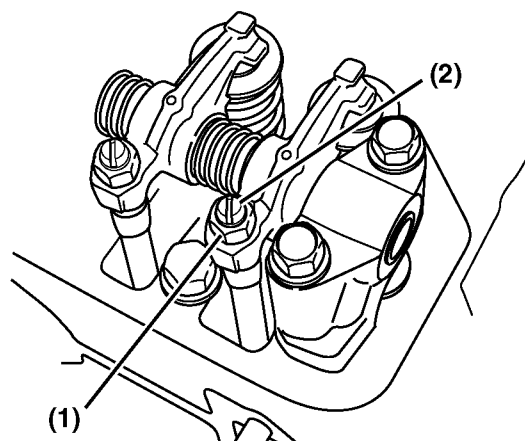
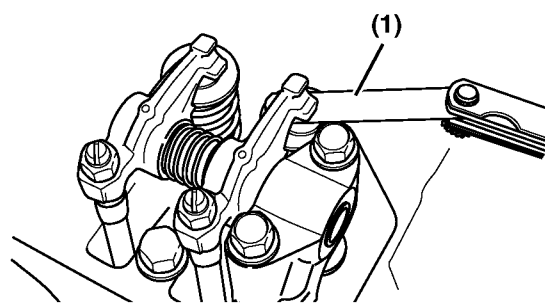

Figure 6-78
Figure 6-79
5. Loosen the valve adjusting screw lock nut (Figure 6-78, (1)) and valve adjusting screw (Figure 6-78, (2)) on the rocker arm and check the valve for inclination of the valve cap, entrance of dirt, or wear.
6. Insert a feeler gauge of the correct thickness (Figure 6-79, (1)) (see *Adjustment Specifications* on page 6-4) between the rocker arm and valve cap. Turn the valve adjustment screw to adjust the valve clearance so there is a slight "drag" on the feeler gauge when sliding it between the rocker arm and the valve cap. Hold the adjusting screw while tightening the valve adjusting screw lock nut (Figure 6-78, (1)). Recheck the clearance.